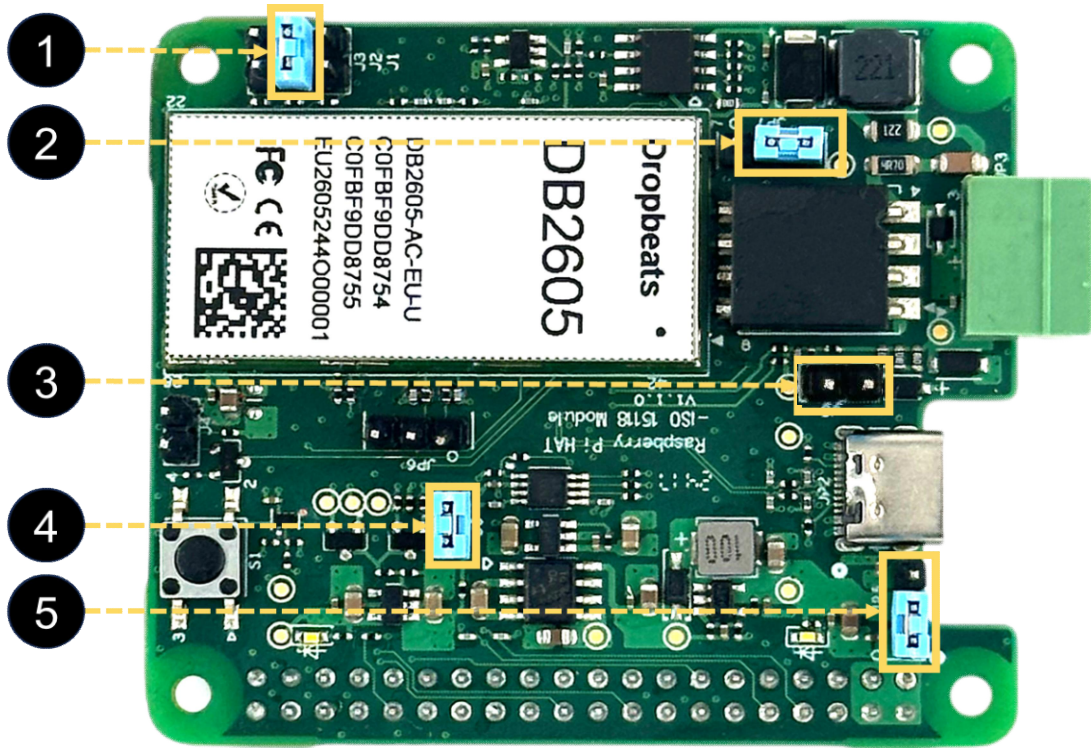

Figure 3 – Jumpers on DB2605 EV Charging HAT
1. Make sure the HAT is set as follows. Refer to Figure 3.